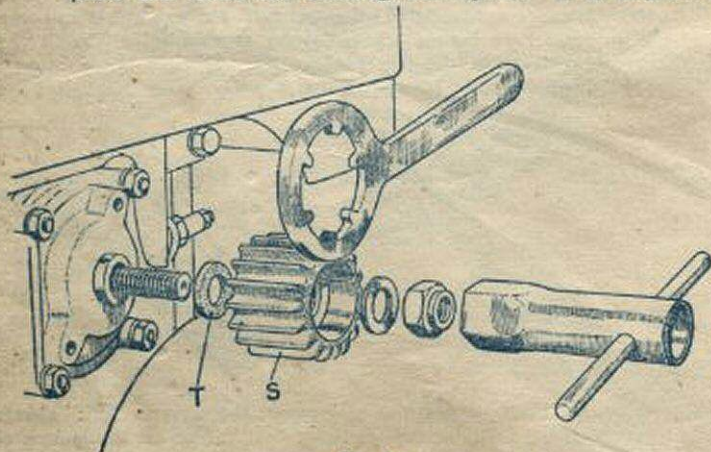

Fig. 6
- (1) First grasp the roller with the special spanner or large pair of pliers and undo the retaining nut Fig. 6. It is important
- (2) Having removed the nut and washers, the roller itself may now be unscrewed. It should come away quite easily and in this case it is permissible to grasp the magneto. If the roller will not unscrew easily it should be soaked in freeing oil and another attempt made after the oil has penetrated into the thread.
- (3) Reverse the operations to fit the new roller, making sure that the washers are replaced in the correct order, i.e., the fibre washer "T" should be fitted between the crankcase and the roller "S," Fig. 6.